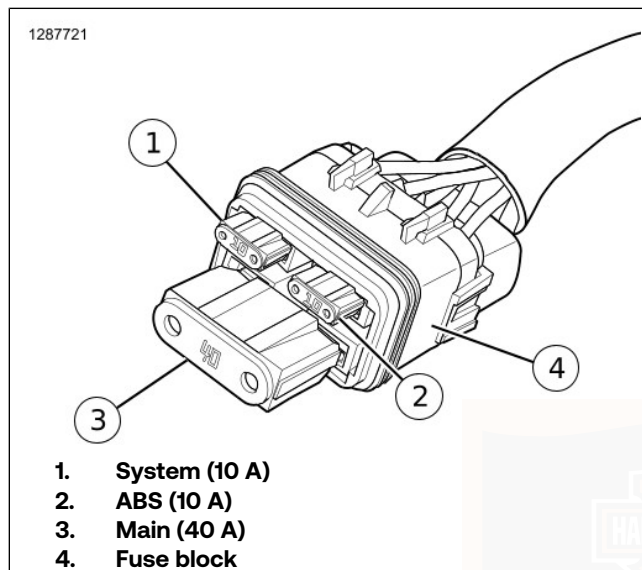

Figure 63. Fuse Block
5. See Figure 63. Remove the suspect fuse and inspect the element. Replace the fuse if the element is burned or separated.